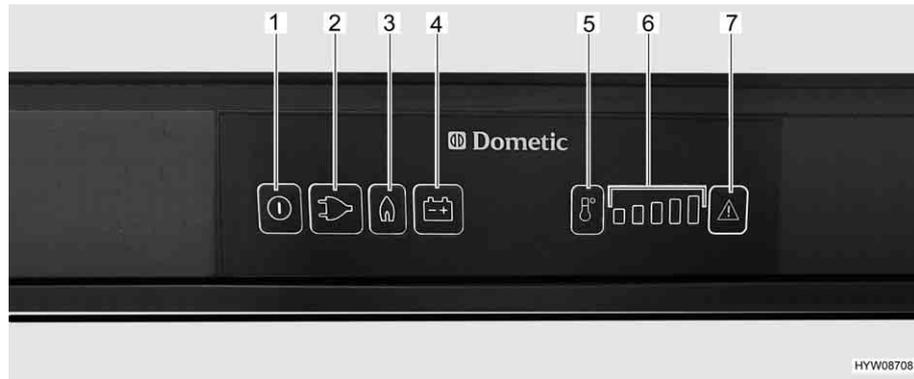

Fig. 226 Operating controls for the refrigerator (Dometic 8 series with MES)
- Press and hold the On/Off button (Fig. 226,1) for about 2 seconds. The refrigerator switches itself on. The button of the operating mode chosen most recently lights up.
- If necessary, press the button for the operating mode "Gas" (Fig. 226,3). The button lights up. Gas supply is open. Ignition will take place automatically. A ticking sound can be heard until ignition has been completed successfully.
- Use the temperature range selection button (Fig. 226,5) to set the refrigerating temperature.
- If necessary, press the button for the operating mode "230 V" (Fig. 226,2). The button lights up.
- If necessary, press the button for the operating mode "12 V" (Fig. 226,4). The button lights up.